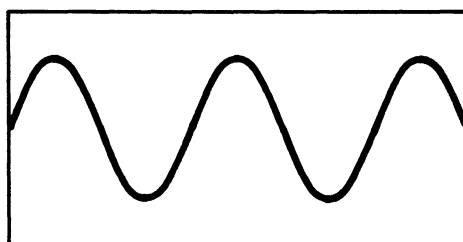

FIG. 3.42
32. Fig. 3.42 shows the trace obtained on the screen of an oscilloscope when an a.c. source of frequency 50 Hz is applied to the Y-plates.